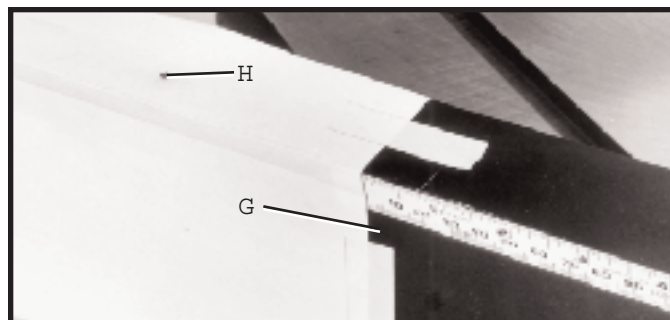

Fig. 25
11. Position the template on the guide rail, as shown in Fig. 25, with the printed side of the template against the guide rail and the fold in the template along the top of the rail. Position the template so that edge (G) which was cut in STEP 9 is aligned with the 0 mark on the scale, as shown. Tape the template in place on the guide rail. Hole (H) Fig. 25, indicates the hole that was drilled in the table in STEP 8D and is the location of the new hole to be drilled in the guide rail.